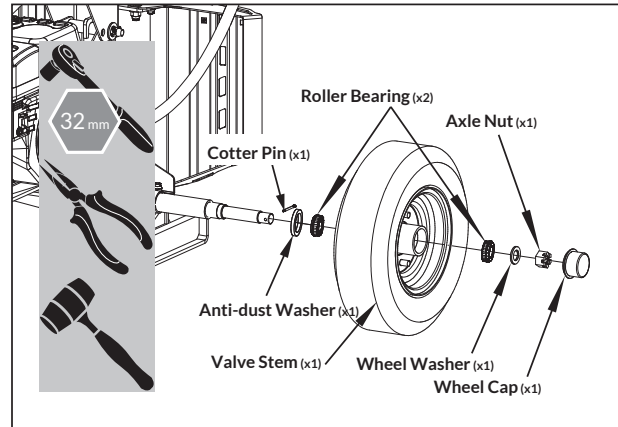

Figure 11d
- Slide the wheel with the valve stem facing out to the wheel axle and the other roller bearing, then put the wheel washer against the bearing. Use a 32mm socket to tighten the axle nut completely. (See Figure 11d)